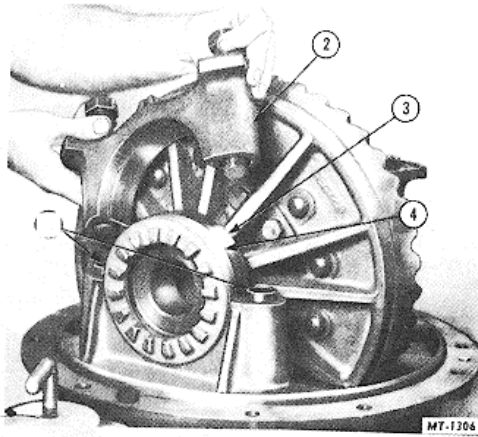

Fig. 15. Removing Differential Bearing Caps
- 3. Remove bearing cap bolts and take off bearing caps and adjusters (Fig. 15).